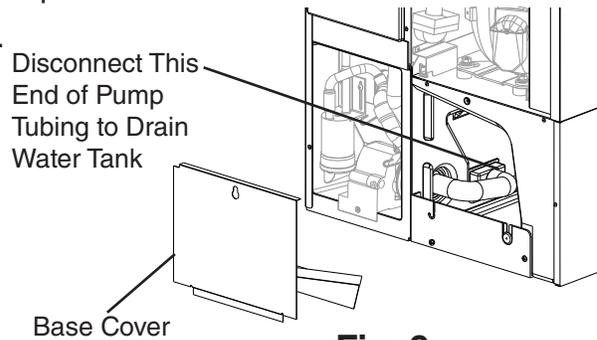

Fig. 9
- 3) Drain the water tank. Remove the base cover, then disconnect one end of the pump tubing to drain the water tank. See Fig. 9. After the water tank has drained, reconnect the pump tubing.